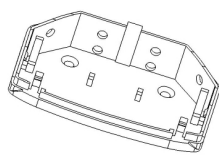

Figure 6
8.3 Depending on the chosen location of the Detector, determine the Detector base sides for fastening to the installation place and drill fastening holes or press them out with a screwdriver (Figure 6).